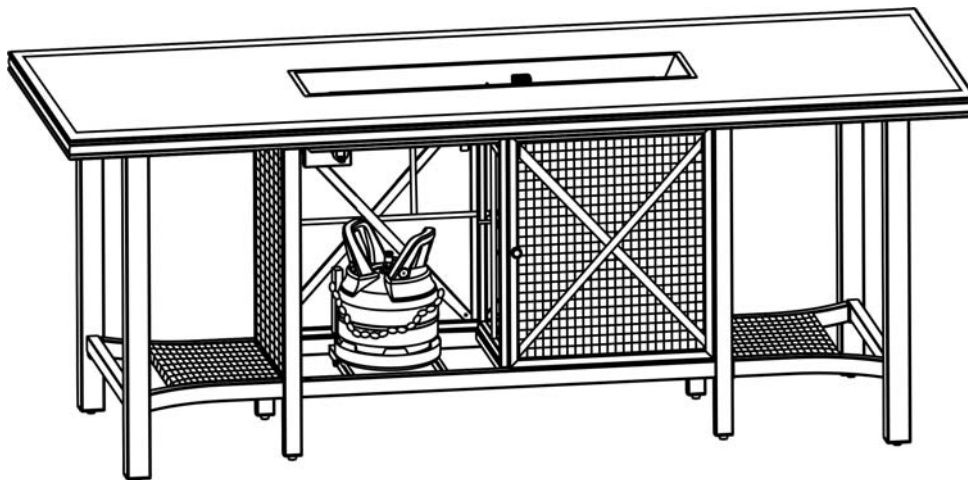

Figure 7
7. Slide the tank drawer out, place the LP tank (not provided) in the drawer and secure it with the chain as shown in Figure 7. With the BLACK lever in the “down/off” position as shown in Figure 8, firmly push the regulator onto the tank valve. To open the valve, lift the BLACK lever and turn the handle 90° clockwise to the “ON” position. See Figure 9. Apply a solution of soapy water to the tank-regulator connection and to the valve-hose connection to check for leaks. If soap bubbles continue to form, the connection has a leak. If a leak is found, close the tank valve and tighten all connections. **NEVER USE A FLAME TO CHECK FOR LEAKS.** In case of gas leakage; for instance, in the event of gas leakage, the appliance shall not be used or if alight, the gas supply shall be shut off and the appliance shall be investigated and rectified before it is used again. To remove the regulator, turn the Black Lever counterclockwise and press straight in. See Figure 10.